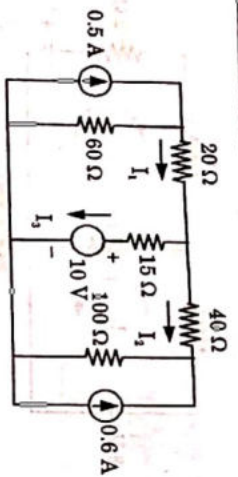

Fig. 1.9.1.
2. Using mesh analysis, find the currents I_1 , I_2 and I_3 in the following circuit of Fig. 1.9.1.